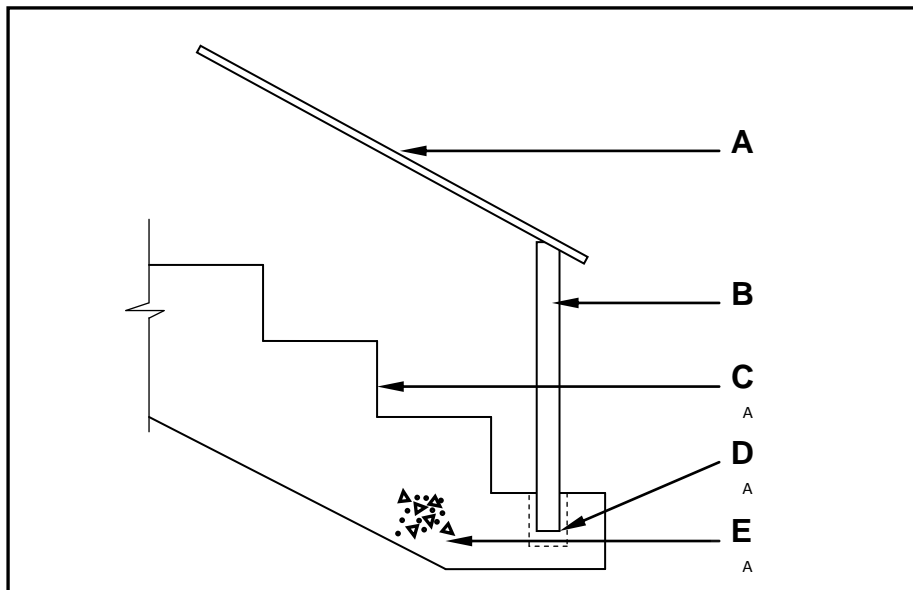

FIGURE 3.8
- Ridge beam (7)
- 3.8 FIGURE 3.8 below shows the vertical cross section of part of a concrete staircase. Study FIGURE 3.8 and answer the questions that follow.